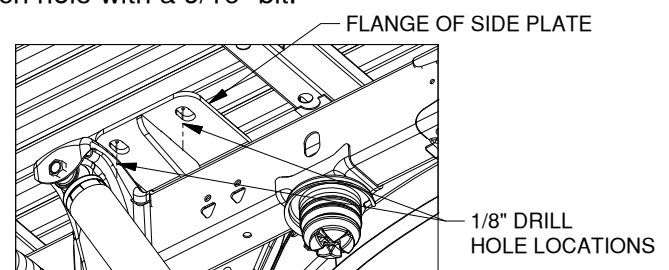

Figure C6: View under bed looking up at drilled area & side plate.
- 3. Enlarge the holes.** Check that the 1/8" holes are centered within the slots in the side plate, see Figure C6. If the 1/8" drilled holes are not centered, re-drill the 1/8" holes until the side plates and the drilled holes are aligned. Using the 1/8" holes as pilots, drill out each hole with a 9/16" bit.